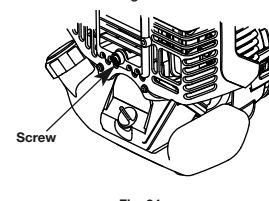

Fig. 34
2. Remove the screw behind the engine cover with a Flat-head or T-25 Torx screwdriver (Fig. 34).